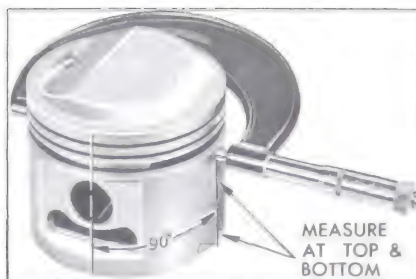

Figure 2-42—Measuring Piston with Micrometer
The pistons are cam ground, which means that the diameter at a right angle to piston pin is greater than the diameter parallel to piston pin. When a piston is checked for size it must be measured with a micrometer applied to skirt at points exactly 90 degrees to piston pin. See Figure 2-42. Measurements should be made at top and bottom ends of skirt; the diameter at top end will normally be very slightly less than at bottom end after a
3. Measure the piston to be installed. See Figure 2-42. The piston must be measured at right angles to the piston pin below the oil ring groove.